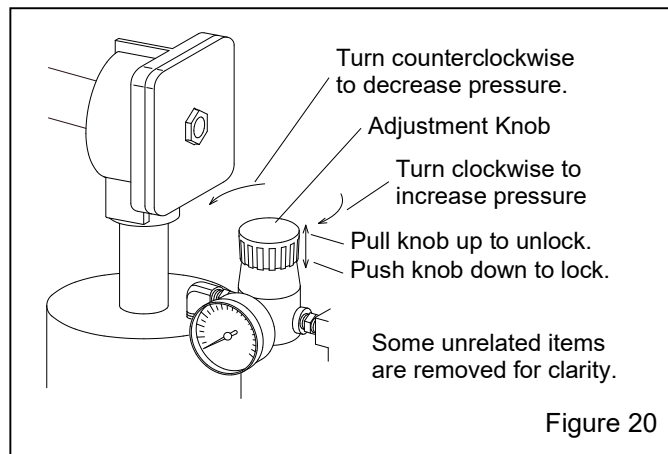

Figure 20
5.8 Pulse Pressure – Figure 20
5.8.1 Adjust pulse pressure using the pressure regulator mounted on the pulse reservoir. Begin pulse at 60 psi. To adjust pressure, pull the knob to unlock it, as shown in Figure 20, and then turn clockwise to increase pressure or counterclockwise to decrease pressure. Once operating pressure is set, push the knob to lock it and maintain the setting.